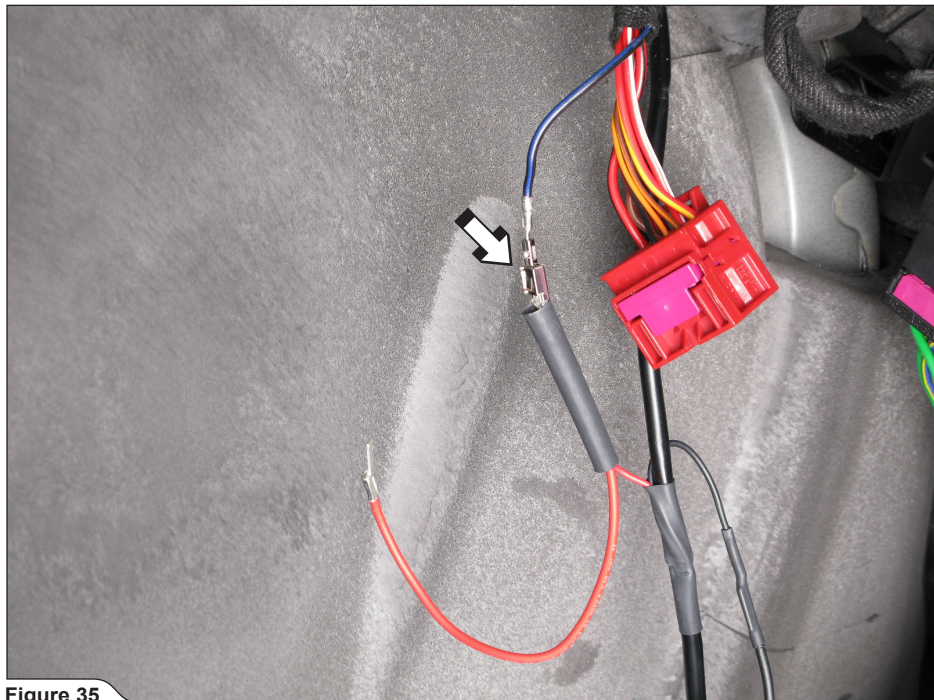

Figure 35
28. Connect the stock blue/black wire to transmitters red wire (Figure 35).